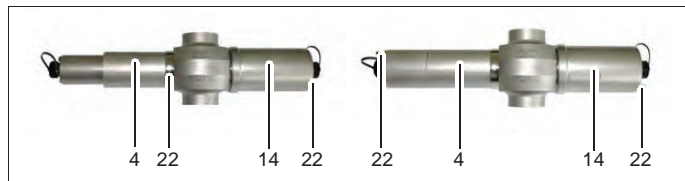

Fig. 7 Window ring and detector assembly air purge connections (left) as well as optical housing and detector assembly air purge connections (right)
3. Install air purge connections (22, fig. 7) screwing.
4. Place the air purge hoses on the air purge connections (22).